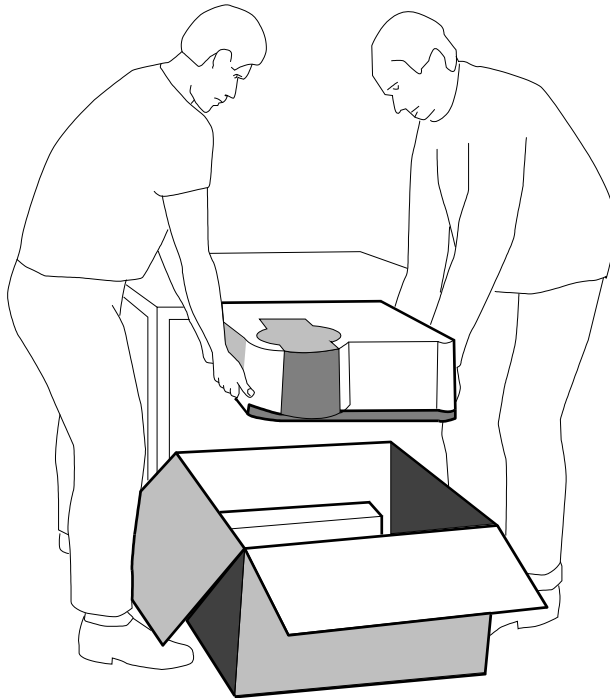

Figure 1. Lifting the Cary 50 from the packaging
- 2** Lift the Cary 50 from the packaging as depicted in Figure 1.